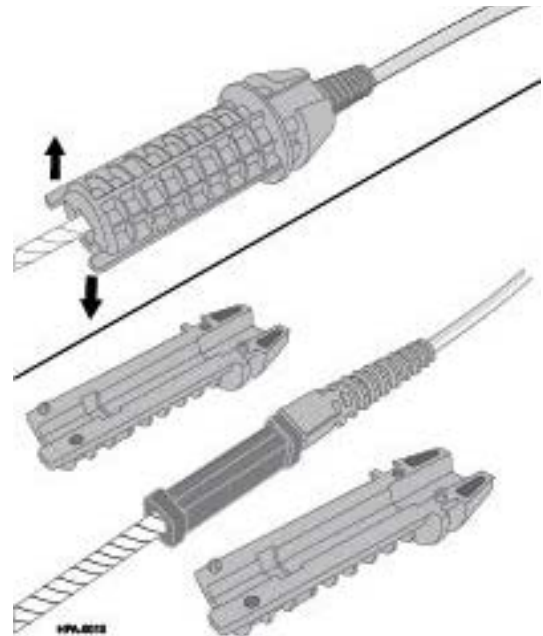

Figure 9— Remove Coupler Halves
**Step 7:** Remove the coupler halves from the trunk furcation body and dispose of the coupler assembly (Figure 9).